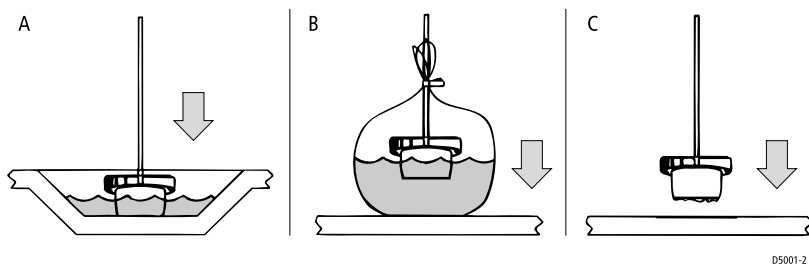

Figure 2-13: Testing the Transducer at the Selected Location
- ii. Place the sensor against the hull and allow bilge water to cover the surface where they touch (see *Figure 2-13 A*).
- iii. Wet the surface of the hull and press the sensor face against it through the bag (see *Figure 2-13 B*).
- iii. Press it against the hull with a twisting motion (see *Figure 2-13 C*).